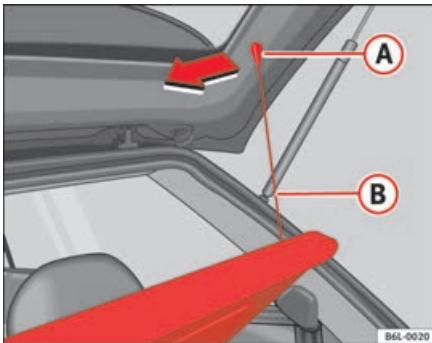

Fig. 90 Luggage compartment cover
- Disengage the loops ⇒ fig. 90 **B** from the retaining pins **A**